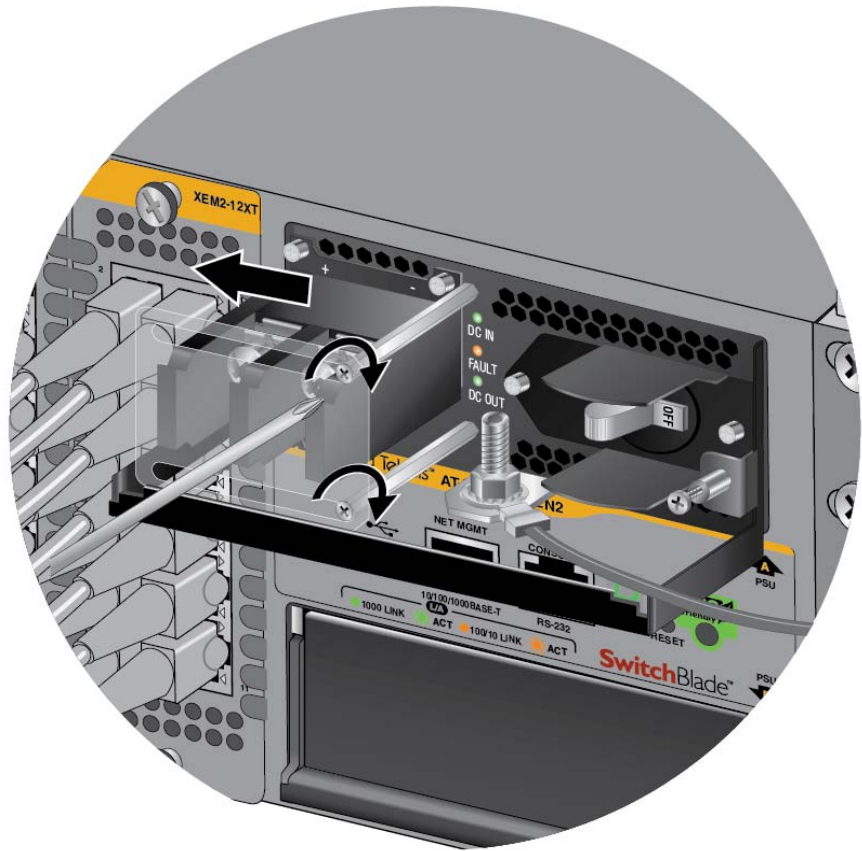

Figure 101. Closing the Plastic Cover
8. Slide the plastic cover to the left and lightly tighten the two screws to secure it in place. Refer to Figure 101 on page 139.